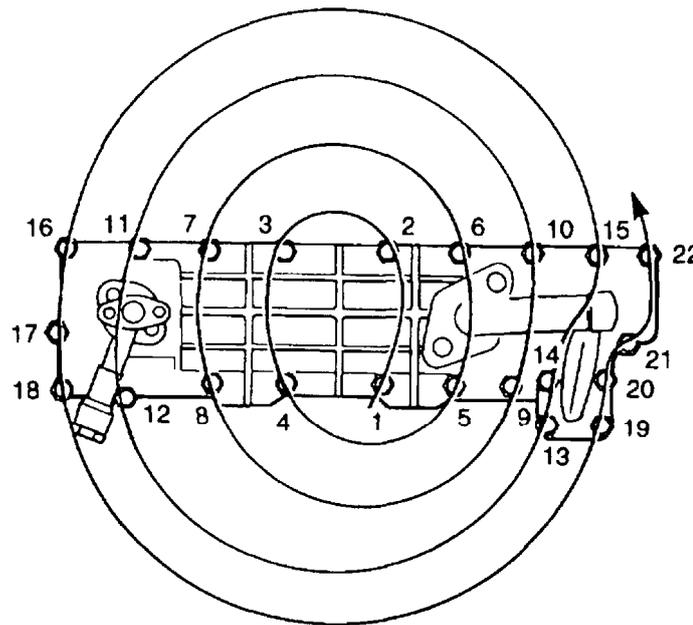

Figure 33 Oil Cooler - Tightening Sequence
- g. Torque the bolts to 20 to 30 N.m (15 to 22 lbf.ft) in the sequence shown in Figure 33.